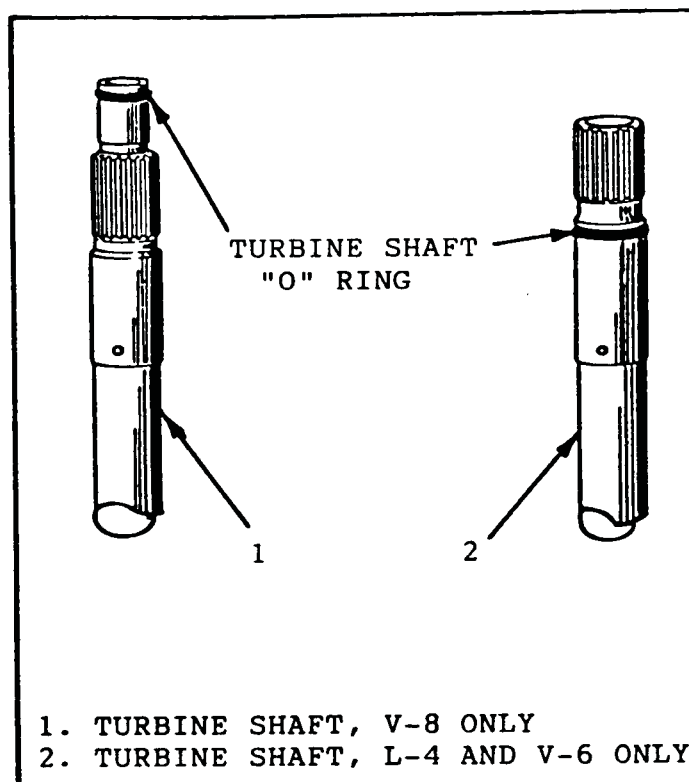

Figure 103
7. Install the proper "O" ring onto the turbine shaft AFTER end clearance is checked and properly set (See Figure 103)